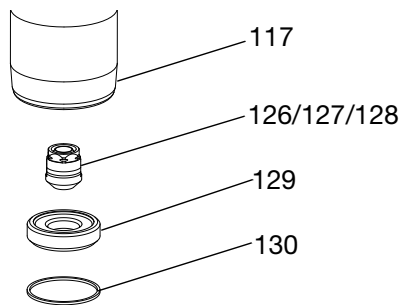

FIG. 14
11. Use an o-ring pick to remove seal (130) from intake valve housing (117). Discard seal; use a new one for reassembly. See FIG. 14.
12. Pull intake seat (129) out bottom of intake valve housing (117). Take care not to drop intake valve assembly (126/127/128) as it comes free, and set it aside for later.